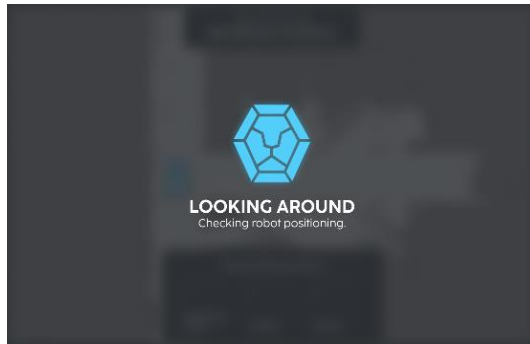

FIGURE 8-10
7. Wait for the robot to check its surroundings (Fig. 8-10).